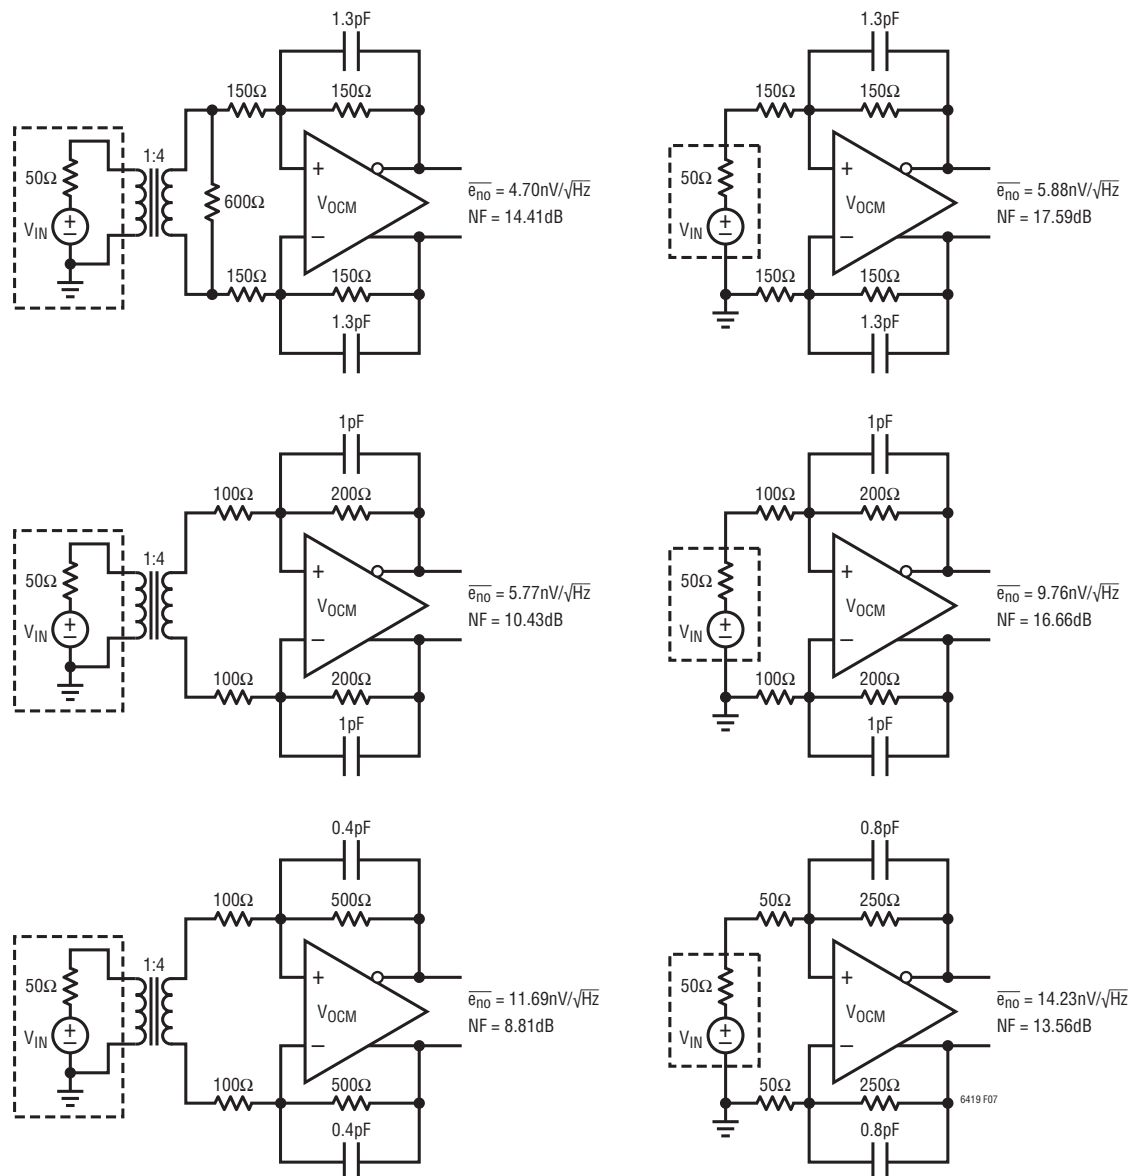

Figure 7. LTC6419 Measured Output Noise and Noise Figure at Different Closed Loop Gains with and without Source Impedance Matching
Figure 7 specifies the measured total output noise (e_{no}), excluding the noise contribution of source resistance, and noise figure (NF) of LTC6419 configured at closed loop gains ($A_V = R_F/R_I$) of 1V/V, 2V/V and 5V/V. The circuits in the left column use termination resistors and transformers to match to the 50Ω source resistance, while the circuits in the right column do not have such matching. For simplicity, DC-blocking and bypass capacitors have not been shown in the circuits, as they do not affect the noise results.